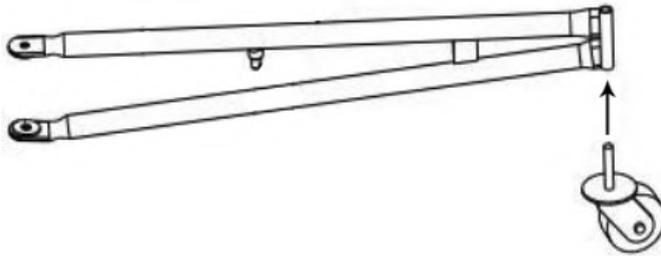

Figure 12
- Attach the caster wheels with all three legs as shown in Fig. 12.
- Attach the wheel assembly to frame assembly with washer $\varnothing 10$ and M10x20 screws as shown in Fig. 12.